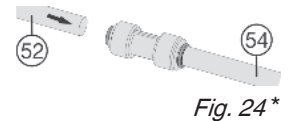

Fig. 24*
► Connect the supplied extension hoses Fig. 24 (54) to the appliance hoses Fig. 24 (52): Slide the appliance hoses into the connectors as far as they will go (approx. 21/32 " (17 mm)) (see 12).*